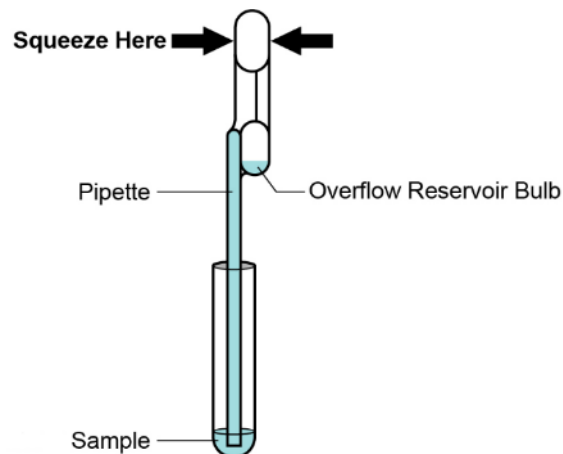

Figure 10. Transfer Pipette
9. Squeeze the top bulb of the transfer pipette **completely until the top bulb is fully flat**. While continuing to hold the bulb fully flat, place the pipette tip in the specimen transport tube. (see Figure 10).